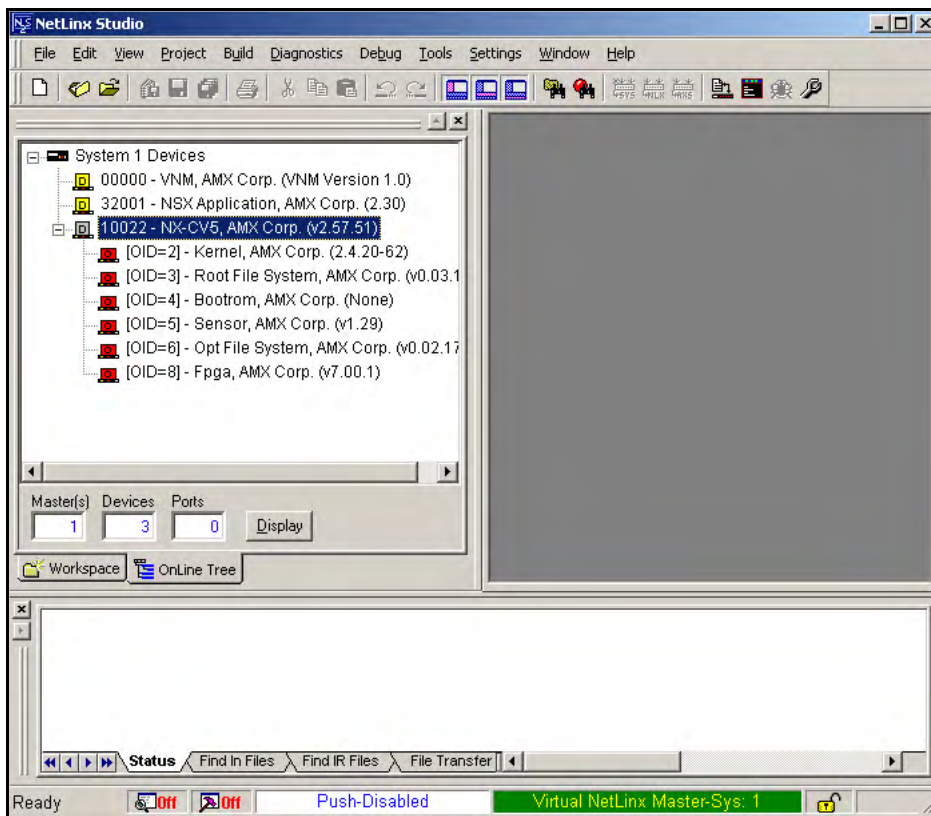

FIG. 37 Using USB for Virtual Master communication
4. Right-click on the System entry (A in FIG. 37) and select **Refresh System**. This causes a refresh of all project systems, establishes a new connection to the Virtual Master, and populates the System list with devices on your particular system.